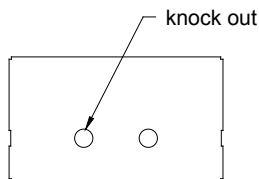

Figure 3A
Cable may be routed into the curtain machine through the slots provided on each side of the unit or through (2) knock outs on the top of the unit. See Figure 3A and 3B.